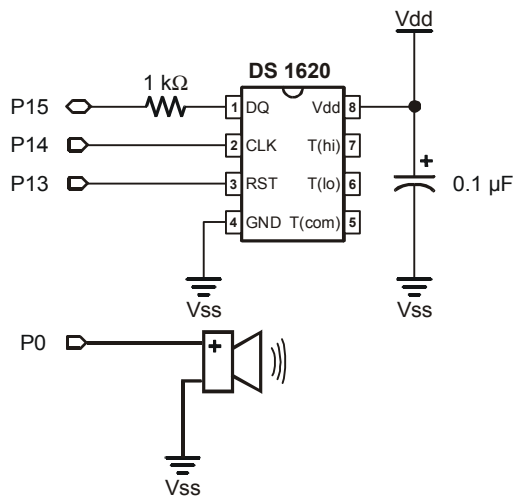

Figure 1-4
- ✓ Build the circuit for the DS1620 as shown in Figure 1-4, following the positioning for the wiring diagram shown in Figure 1-5. Please note that the piezo circuit built previously remains in place in the schematic and wiring diagram, as it should on your Board.